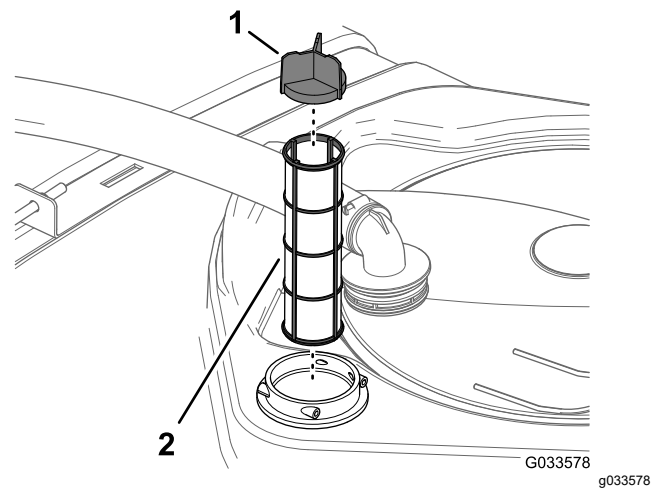

Figure 101
4. Remove the old suction filter from the filter housing in the tank (Figure 101).